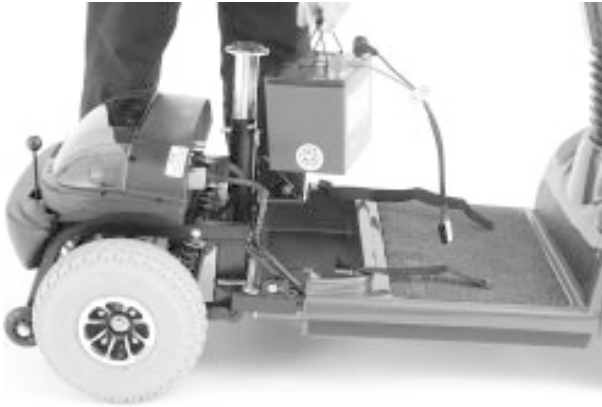

FIGURE 22. BATTERY REMOVAL
8. Lift both batteries off of the Hurricane. See figure 22.